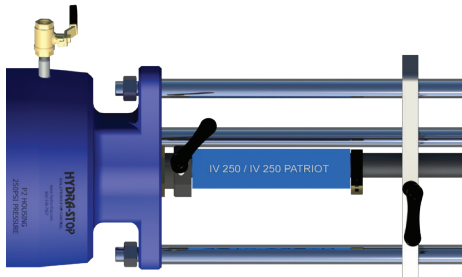

Figure 35
3.0.16) Slide and place the guide plate to within 2" of the stop collar and lock the clamp lever (see Figure 35).